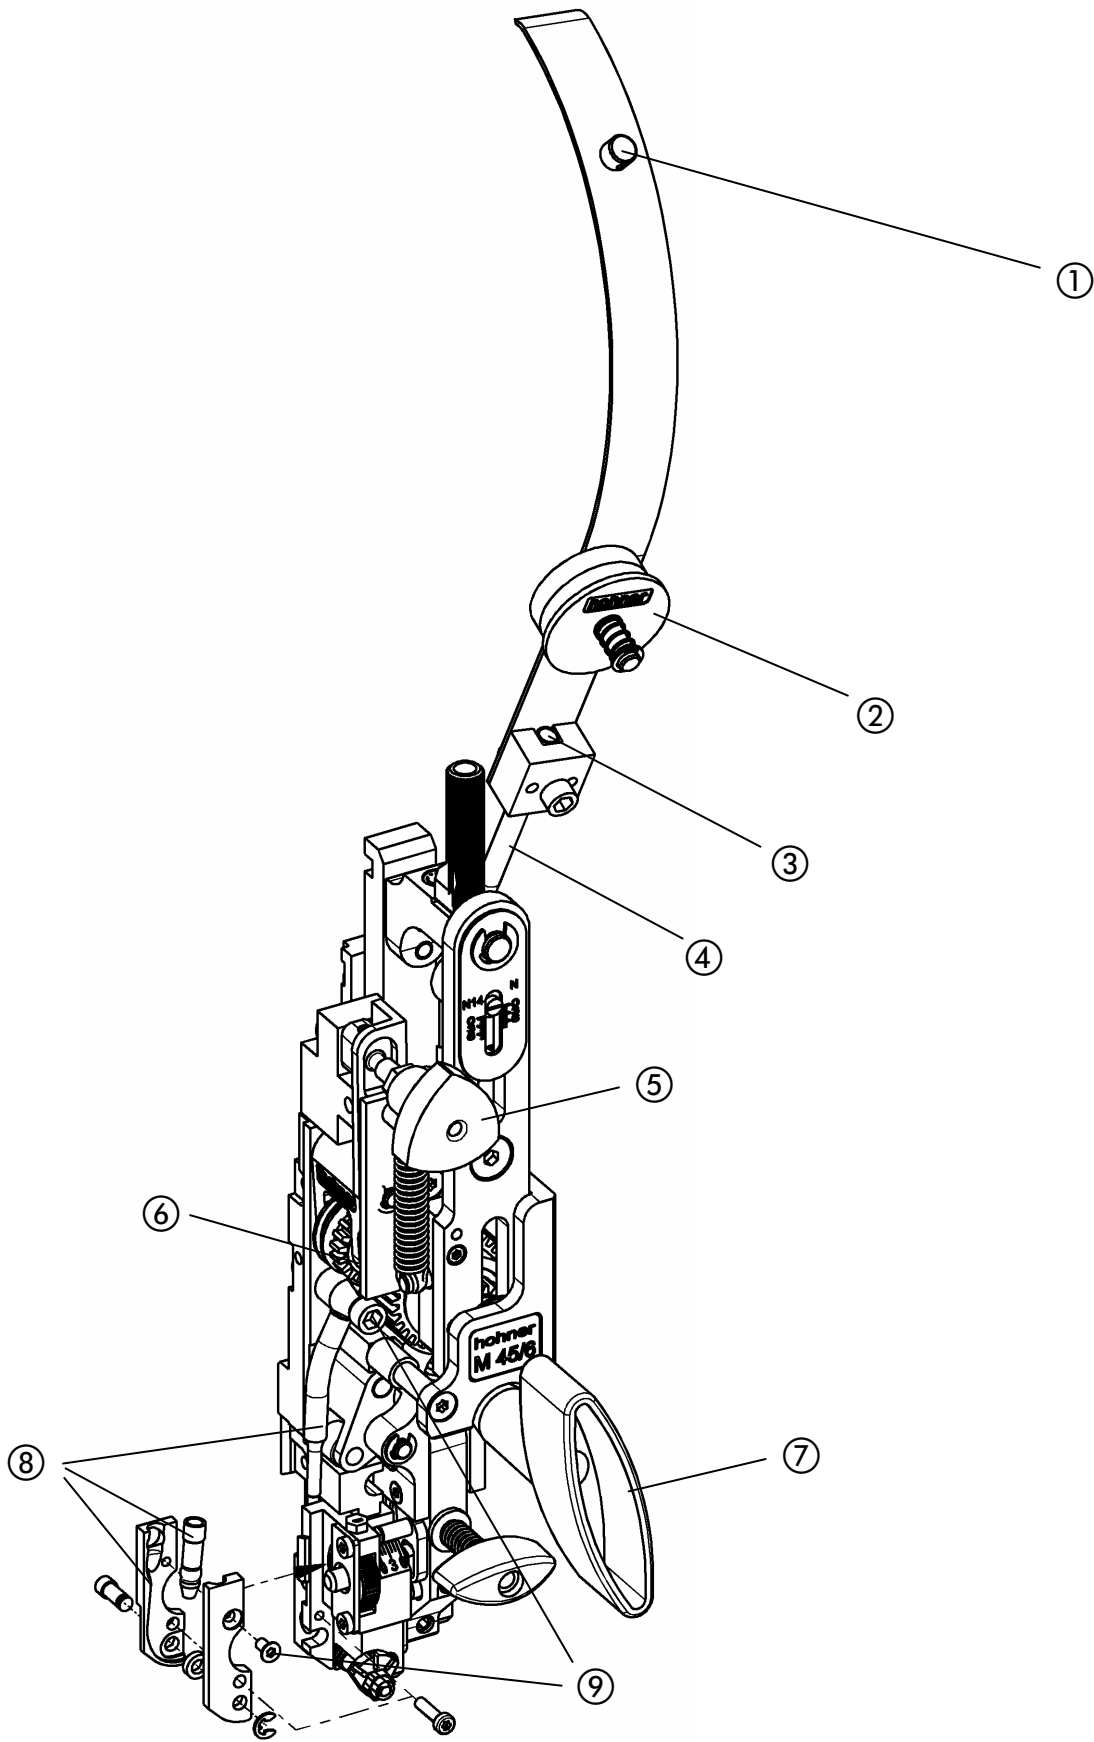

Fig. 9
- Fig. 9 -
- Stop wire feed (move triangular handle ⑤ into "middle position").
- Restart the wire feed (turn triangular handle ⑤ to the left or right).
- Mount adjusting handle ⑦.
- Convey stitching wire by turning the adjusting handle ⑦ to the right as far as the knife.